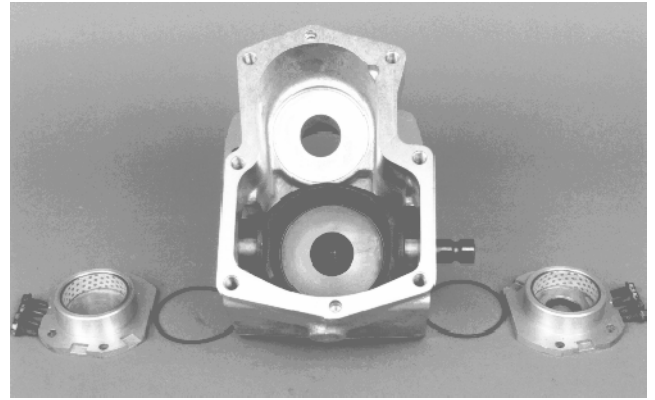

Figure 59
3. Install trunnion cover (with O-ring and trunnion bearing) into housing and over swashplate trunnion (Fig. 59).